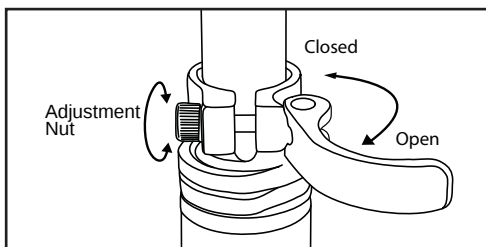

Fig. 7: Opening and adjusting a quick release.
1. Open the seatpost quick release lever (Figs. 7 & 8).
3. When you are satisfied with the height of the seatpost, close the seatpost quick release lever. The tightness of the lever is adjusted by rotating the adjustment nut opposite the quick release lever. Turn the nut by hand to adjust the tension while holding the lever stable (Fig. 7).